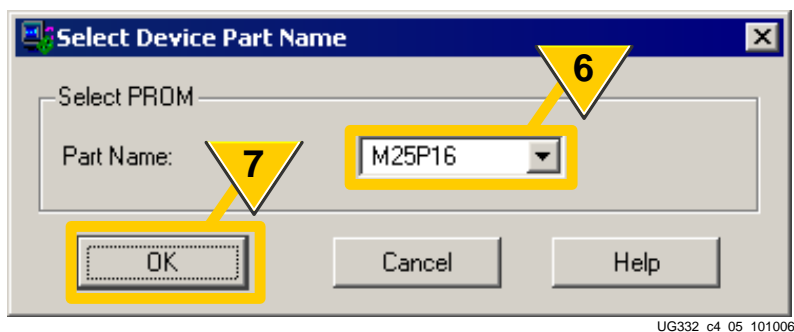

Figure 12-8: Select a Supported SPI Flash Memory Device
6. Select the **Part Name** for a supported SPI serial Flash, as shown in Figure 12-8.